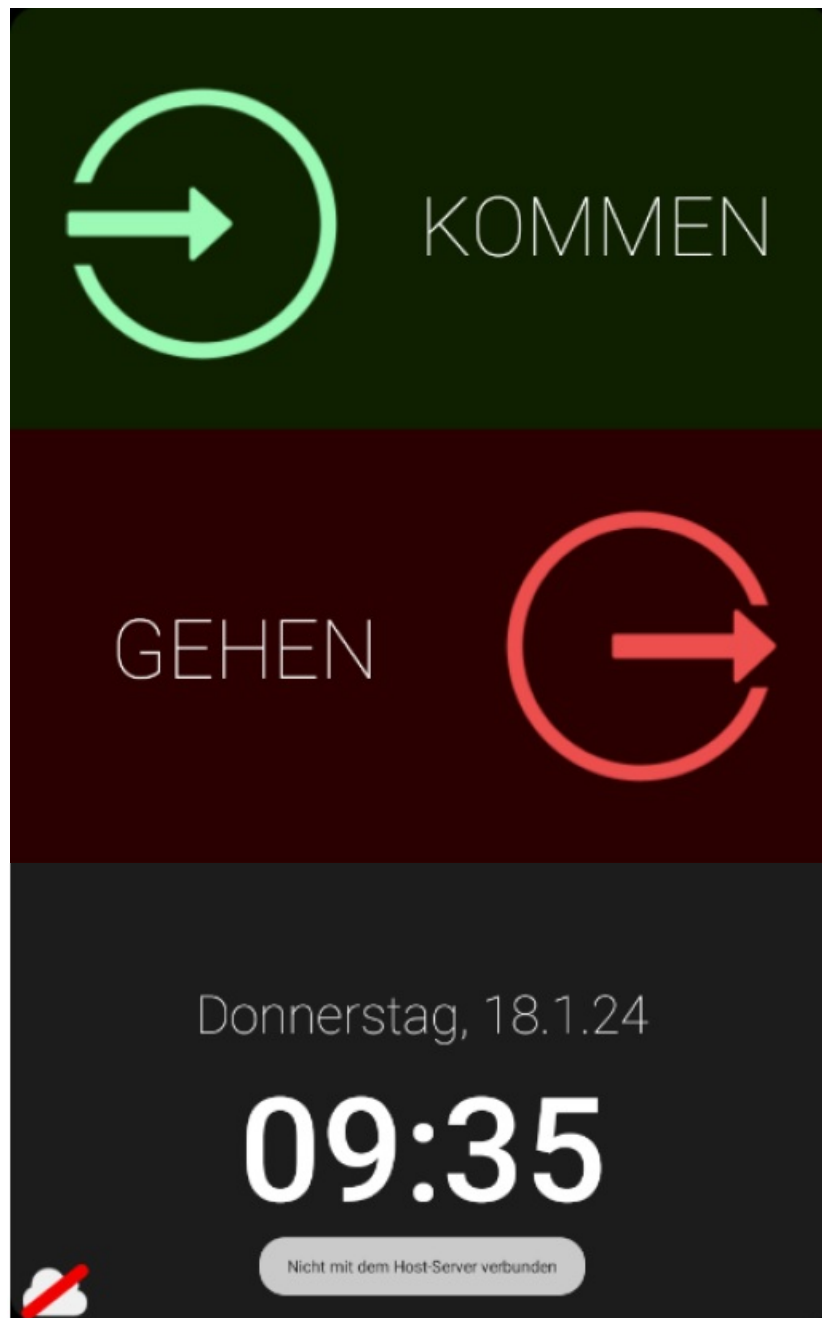

Fig. 14
Sectime enables the user to record their time of arrival and departure using simple commands on the touch display (Fig. 14) and their mobile credentials.
1. Place one finger on the green button (defined ex-works as “KOMMEN”) of the touch display (Fig. 14) and swipe to the right.
1. Place one finger on the red button (defined ex-works as “GEHEN”) of the touch display (Fig. 14) and swipe to the left.